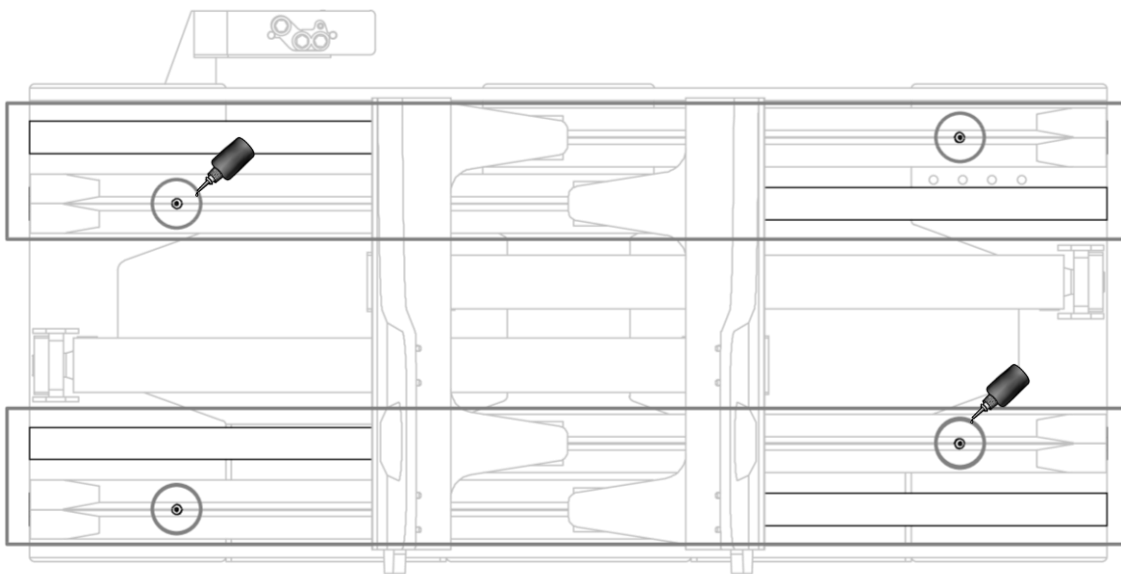

Figure 23
4. Clean and lubricate all sliding parts (see *Figure 23* on page 33).